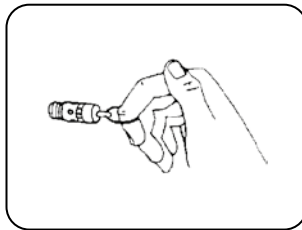

FIGURE 8.2
11. Check manual or automatic purger functioning (Figure 8.2) (time button setting at the purger or parameter P100 and P101, setting, according to product version).
- B. Check the operation of the safety valve (Figure 8.2).